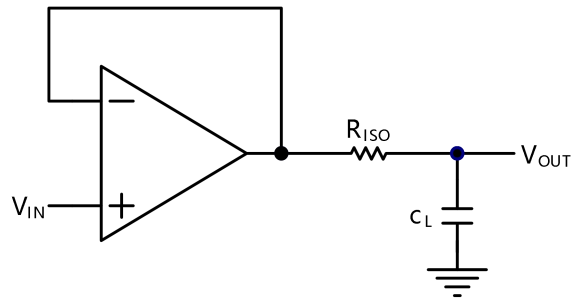
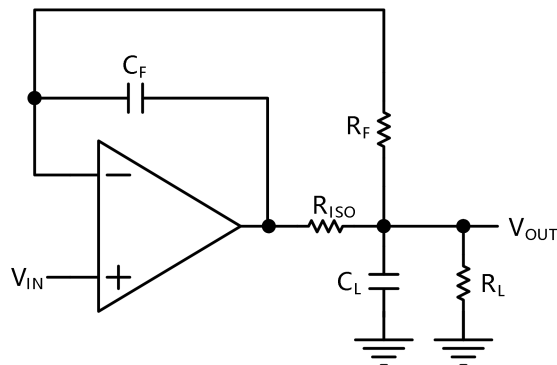

Figure 2. Indirectly Driving a Capacitive Load Using Isolation Resistor
Figure 3. Indirectly Driving a Capacitive Load with DC Accuracy
The CBM833X family is optimized for bandwidth and speed, not for driving capacitive loads. Output capacitance will create a pole in the amplifier's feedback path, leading to excessive peaking and potential oscillation. If dealing with load capacitance is a requirement of the application, the two strategies to consider are (1) using a small resistor in series with the amplifier's output and the load capacitance and (2) reducing the bandwidth of the amplifier's feedback loop by increasing the overall noise gain. Figure 2. shows a unity gain follower using the series resistor strategy. The resistor isolates the output from the capacitance and, more
The circuit in Figure 3 is an improvement to the one in Figure 2.  $R_F$  provides the DC accuracy by feed-forward the  $V_{IN}$  to  $R_L$ .  $C_F$  and  $R_{ISO}$  serve to counteract the loss of phase margin by feeding the high frequency component of the output signal back to the amplifier's inverting input, thereby preserving the phase margin in the overall feedback loop. Capacitive drive can be increased by increasing the value of  $C_F$ . This in turn will slow down the pulse response.